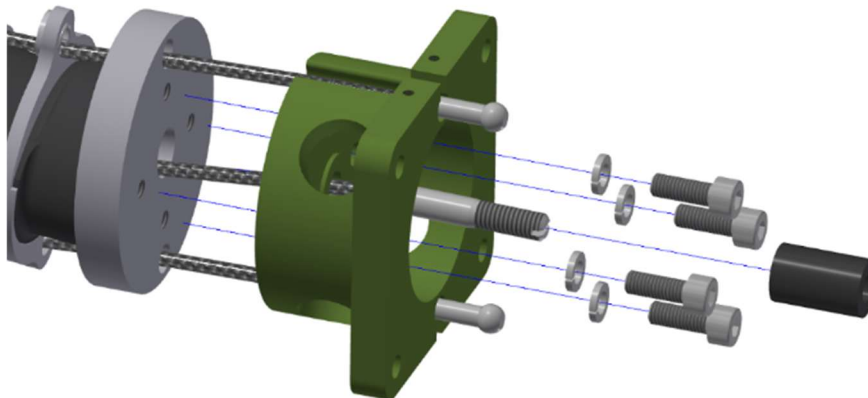

Figure 4-34. Install the Lower Neck Load Cell (SA572-S106)
- 4.3.5 Attach the Lower Neck Load Cell (SA572-S106) to the bottom of the neck with the sensor wires toward the rear of the neck using four M5 X 0.8 X14 SHCS with M5 Split Lock Washers (Figure 4-34). Feed the center cable through the hole in the center of the load cell and slide the Compression Bushing (474-2331) on the end. The ball ends of the front and rear cables rest in the base of the lower neck load cell.